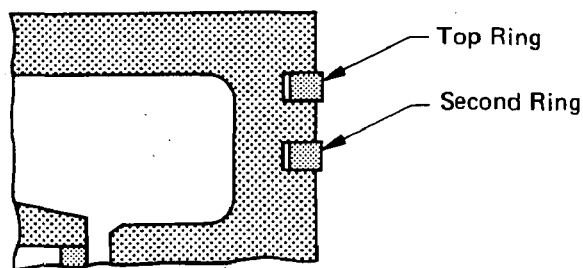

Fig. 8
- 3) *Assemble the rings in the order of the 2nd ring and then top ring. (Fig. 8)*